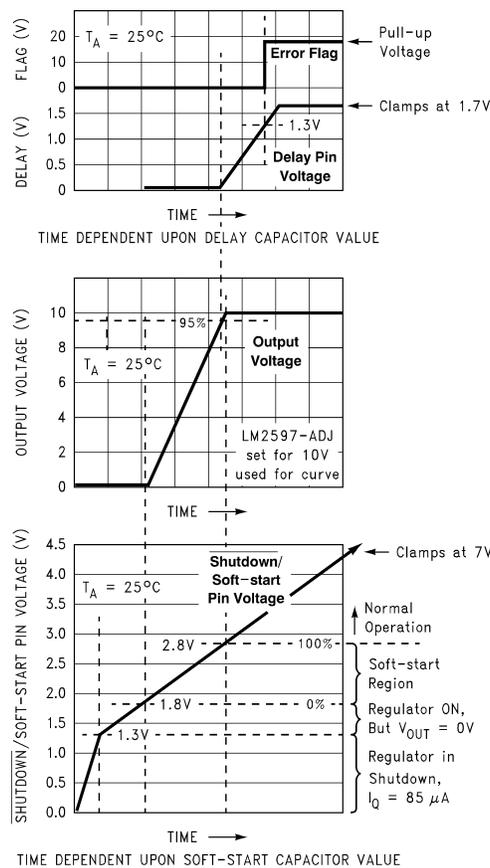
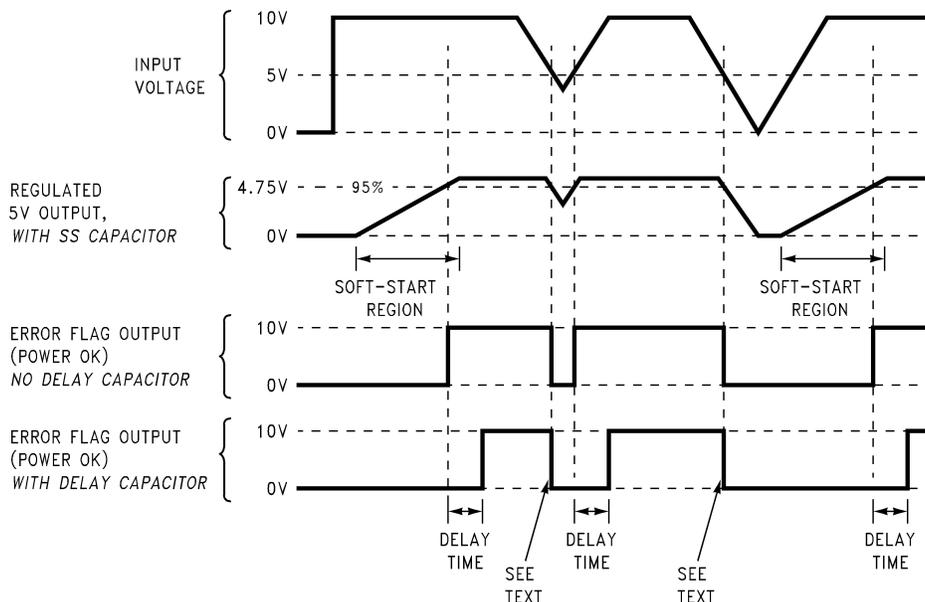

Figure 32. Soft-start, Delay, Error, Output
Figure 33. Timing Diagram for 5V Output
C_{SS} —A capacitor on this pin provides the regulator with a Soft-start feature (slow start-up). When the DC input voltage is first applied to the regulator, or when the Shutdown /Soft-start pin is allowed to go high, a constant current (approximately $5 \mu A$) begins charging this capacitor). As the capacitor voltage rises, the regulator goes through four operating regions (See the bottom curve in Figure 32).
- Soft-start Region.** When the \overline{SD} /SS pin voltage is between 1.8V and 2.8V (@ 25°C), the regulator is in a Soft-start condition. The switch (Pin 8) duty cycle initially starts out very low, with narrow pulses and gradually get wider as the capacitor \overline{SD} /SS pin ramps up towards 2.8V. As the duty cycle increases, the output voltage also increases at a controlled ramp up. See the center curve in Figure 32. The input supply current requirement also starts out at a low level for the narrow pulses and ramp up in a controlled manner. This is a very useful feature in some switcher topologies that require large startup currents (such as the inverting configuration) which can load down the input power supply.
The lower curve shown in Figure 32 shows the Soft-start region from 0% to 100%. This is not the duty cycle percentage, but the output voltage percentage. Also, the Soft-start voltage range has a negative temperature coefficient associated with it. See the Soft-start curve in Electrical Characteristics.
C_{DELAY} —Provides delay for the error flag output. See the upper curve in Figure 32, and also refer to timing diagrams in Figure 33. A capacitor on this pin provides a time delay between the time the regulated output voltage (when it is increasing in value) reaches 95% of the nominal output voltage, and the time the error flag output goes high. A 3 μ A constant current from the delay pin charges the delay capacitor resulting in a voltage ramp. When this voltage reaches a threshold of approximately 1.3V, the open collector error flag output (or power OK) goes high. This signal can be used to indicate that the regulated output has reached the correct voltage and has stabilized.